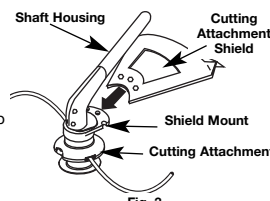

Fig. 3
3. Put the washer on the bolt, then screw the wing nut onto the bolt and tighten. Figure 3 shows the installation process from underneath the unit.
1. Slide the cutting attachment shield into the shield mount on the cutting attachment. Align the screw holes in the shield with the holes in the cutting attachment (Fig. 3).